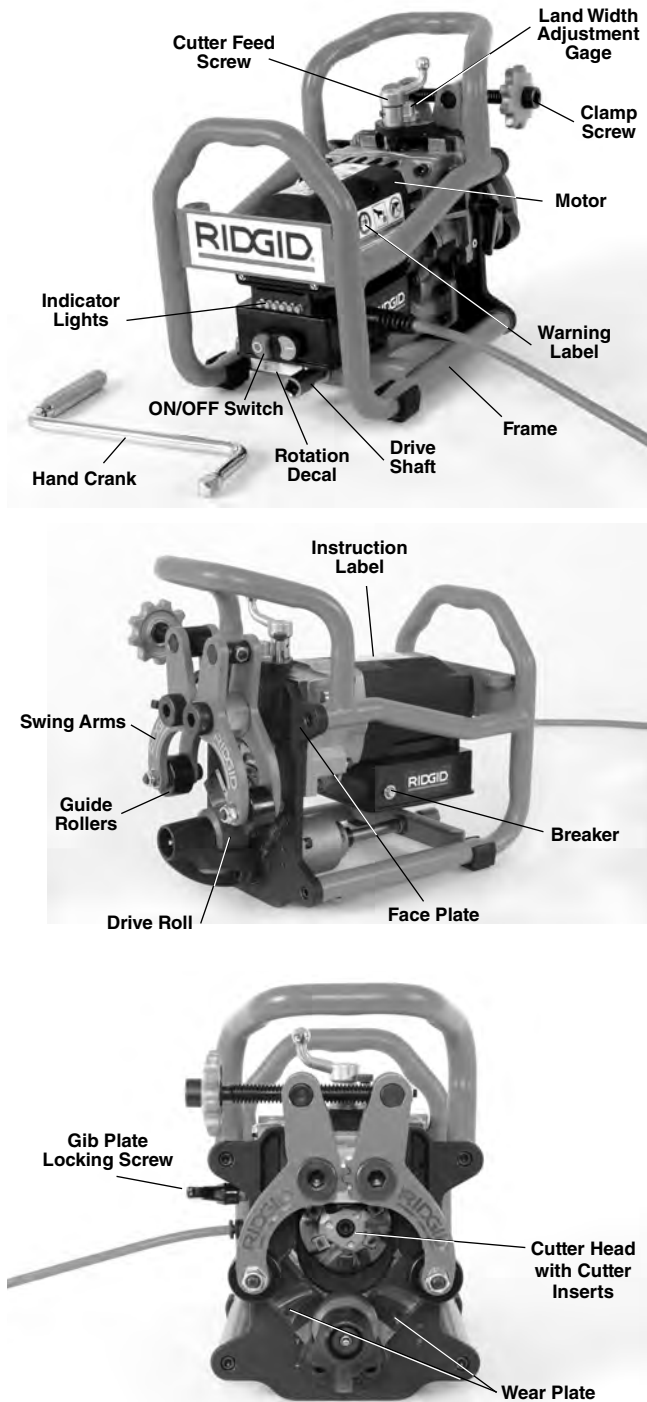

Figure 1 – Model B-500 Beveller
- Presence and readability of the warning and instruction labels (See Figure 1).